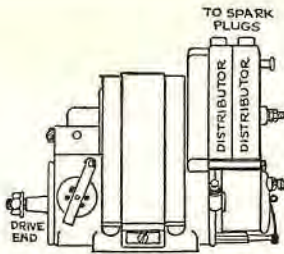

Fig. 6
The eight-cylinder type, shown in Figs. 6 and 6A, is designed to operate at twice the crank-shaft speed, and the six-cylinder magneto at one and one-half crank-shaft speed. The four-cylinder is designed to operate at crank-shaft speed. This type of magneto is designed for heavy duty, marine, and aeronautical engines.
The distributing mechanism consists of two separate distributor blocks (Fig. 6) and one distributor finger carrying two separate distributor brushes (B), each brush connecting with the segments (S) of its respective distributor block. Thus, any two cable terminals directly opposite each other on the distributor blocks will practically possess an equal electrical potential relative to any part of the body of the engine.